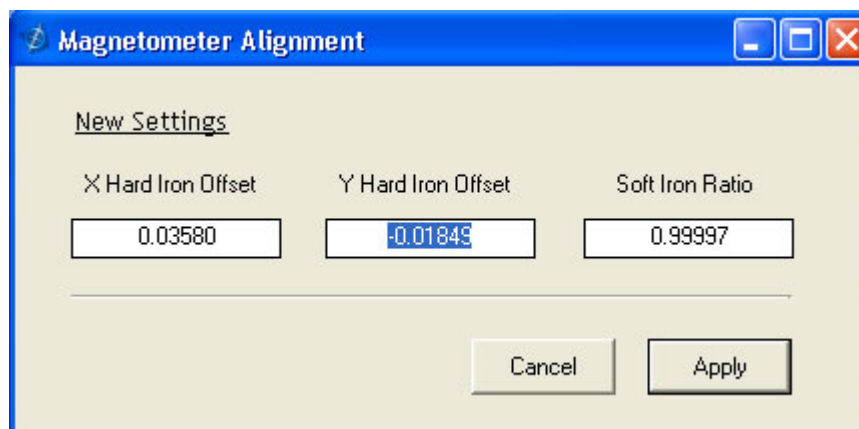

Figure 28 Magnetometer Alignment
6. Save this data to the AHRS or INSx81ZA product by selecting the “Apply” button (See Figure 28).